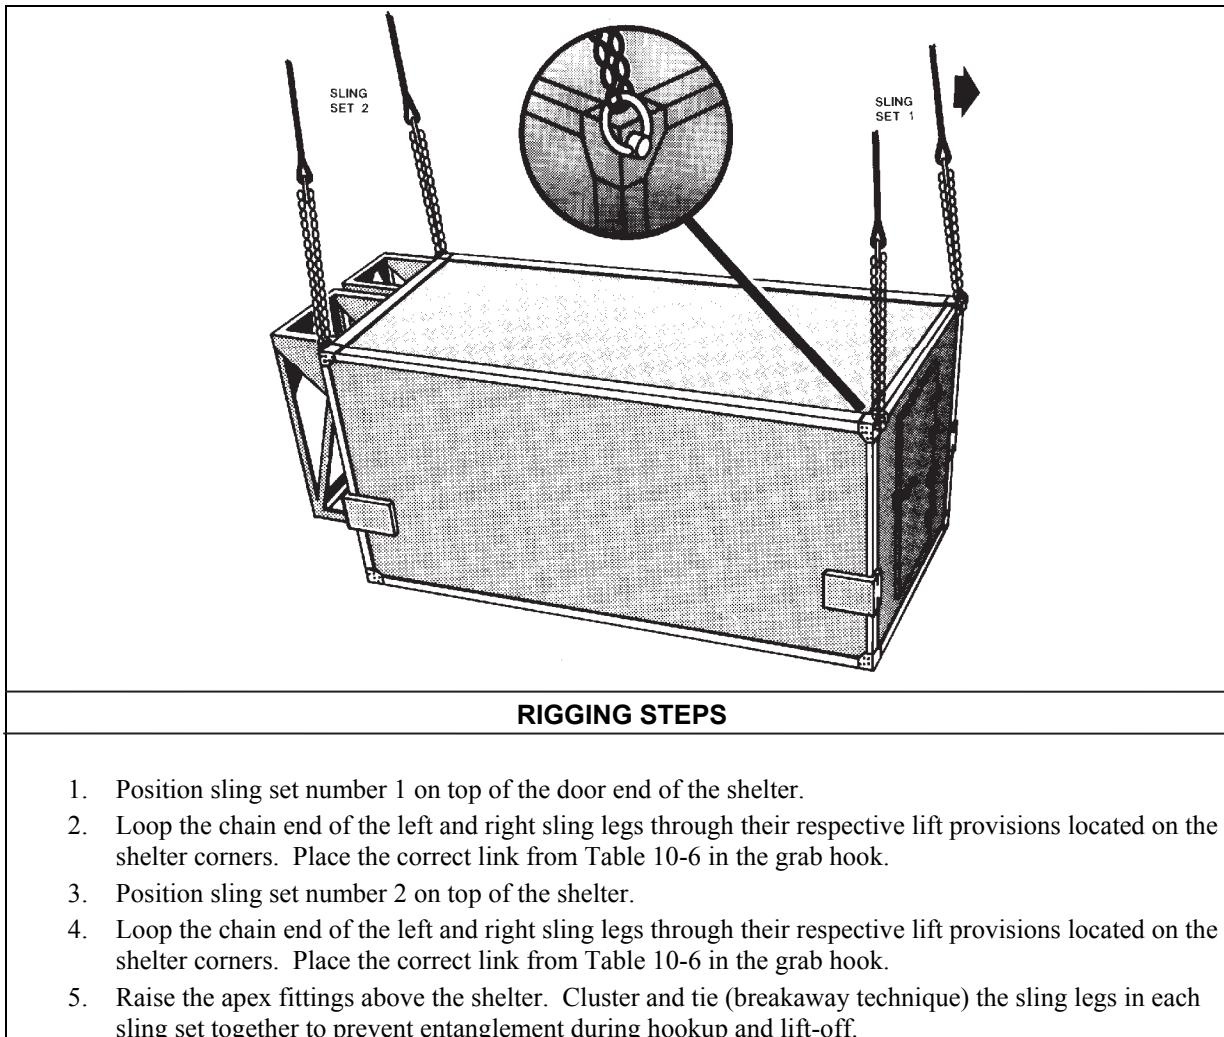

Figure 10-6. AN/TYC-5A Data Communications Terminal
- **Rigging.** Rig the load according to the steps in Figure 10-6.